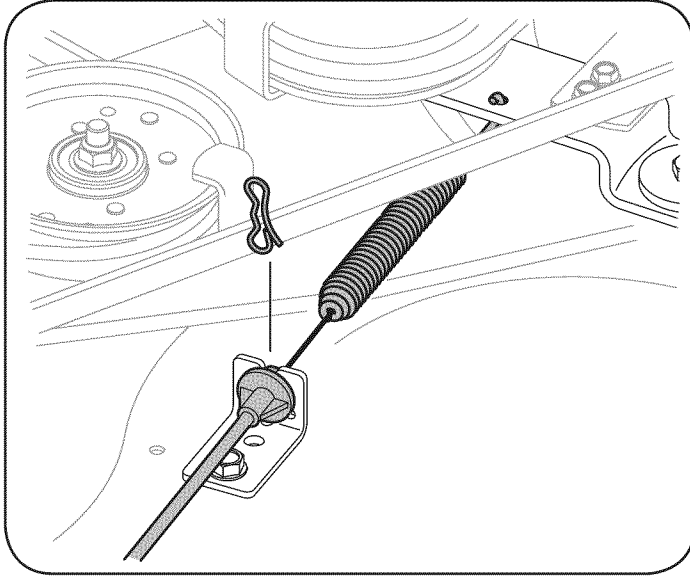

Figure 21
9. Carefully remove the PTO cable from the rear of the cutting deck by removing the bow-tie cotter pin which secures it. Remove the spring from the deck idler bracket. See Figure 21.